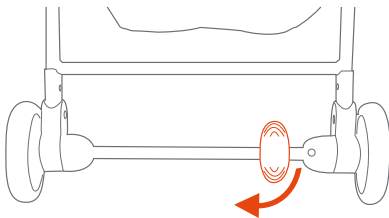

Fig. 8
- 8) • To engage brakes, apply light downward pressure to rotate the brake lever located on the rear wheel. The stroller may require slight forward or rearward movement in order to line up the teeth on the brake with each wheel brake cluster (Fig. 8). NOTE: Gently attempt to roll the stroller forward to check that the stroller will not move. If applied correctly the stroller will not roll.